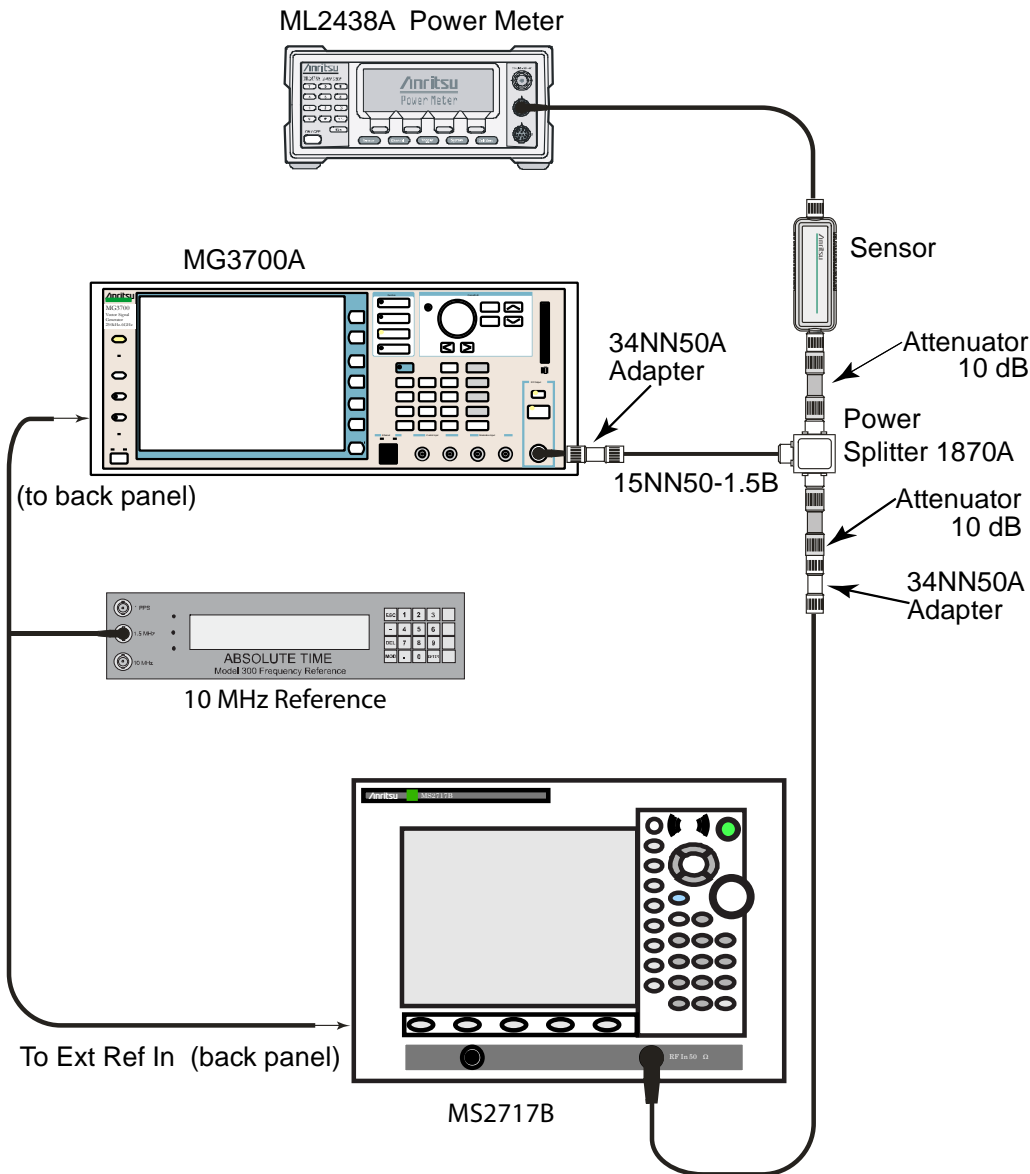
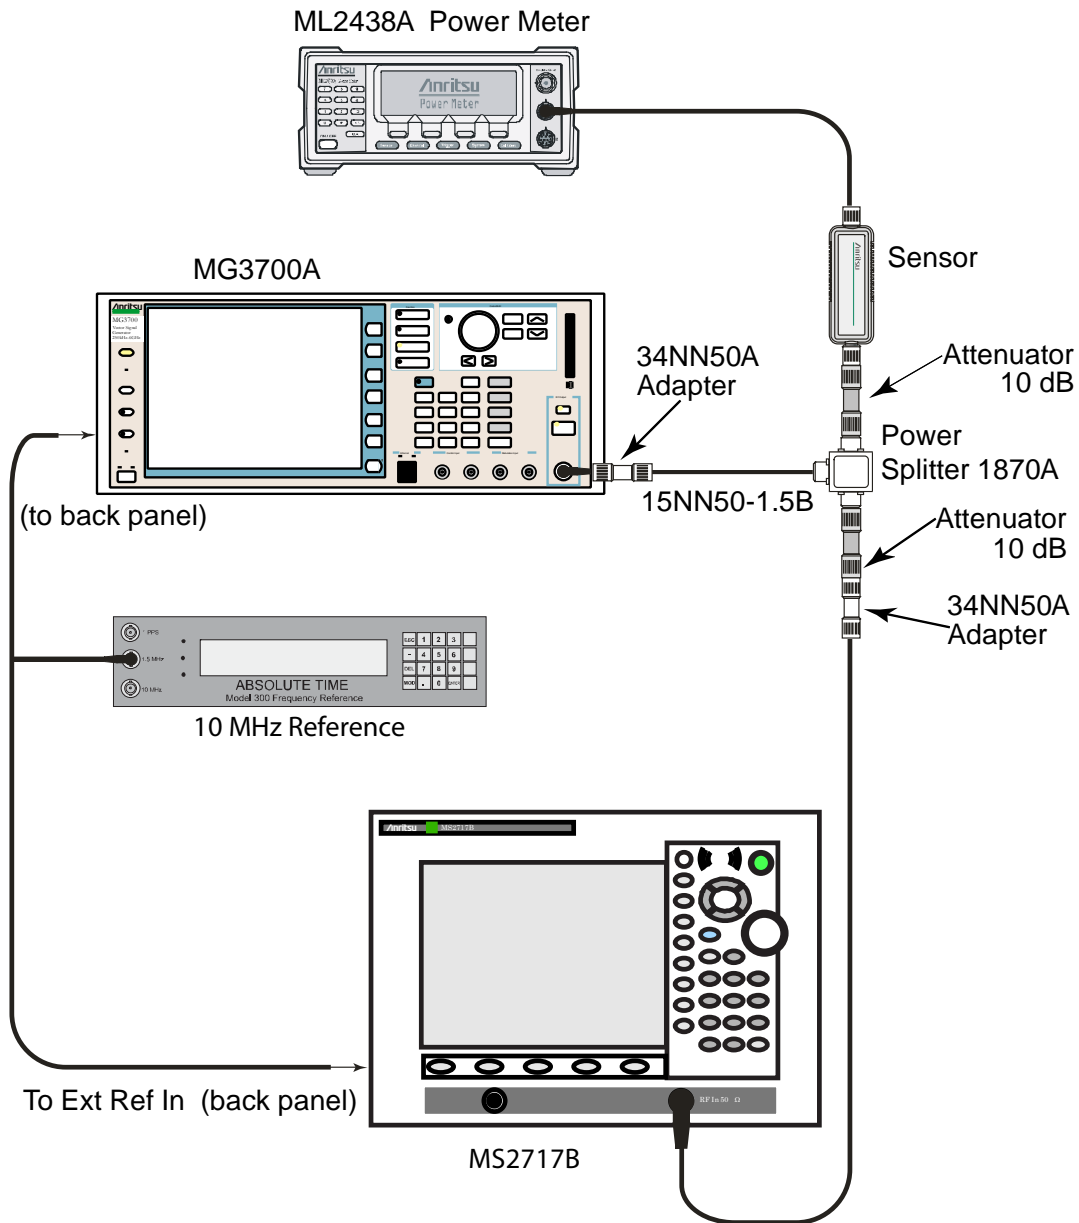

Figure 3-6. Fixed WiMAX Channel Power Accuracy Test Setup
Figure 3-7. Fixed WiMAX Residual EVM and Frequency Error Test Setup
3. Connect the Power Sensor, 1870A splitter, and 10 dB attenuators (quantity 2), as shown in Figure 3-6, which is the same as Figure 3-5, “WCDMA OBW Verification Test Setup” on page 3-16.
3. Connect the Power Sensor, 1870A splitter, and 10 dB attenuators (quantity 2), as shown in Figure 3-7, which is the same as Figure 3-6, “Fixed WiMAX Channel Power Accuracy Test Setup” on page 3-24.